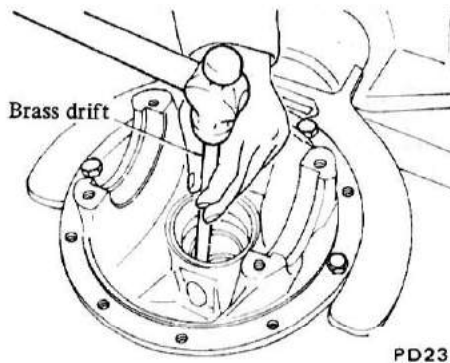

Fig. PD-11 Removing pinion front and rear bearing outer races
6. To remove outer races of both front and rear bearing, apply a brass drift to race side surface, and withdraw them by tapping the top of drift with a hammer. See Figure PD-11.